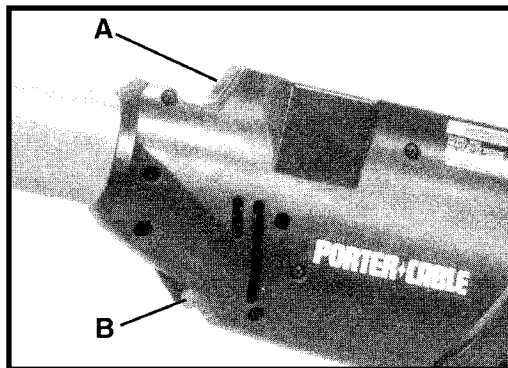

Fig. 4
The Drywall Sander is equipped with a “rocker” type switch (A) Fig. 4. The top end of the switch button is labeled “OFF”, and the bottom end of the button is labeled “ON”. To start the Sander, press the bottom (ON) end of the switch. To stop the Sander: press the top (OFF) end of the switch.
The **Model 7800** Drywall Sander is equipped with a variable speed control. The speed is adjusted by turning the control knob (B) Fig. 4. The control knob is numbered “1” through “5”. The setting “1” is the slowest speed (approximately 1000 RPM) and “5” is the fastest speed (approximately 2,000 RPM).